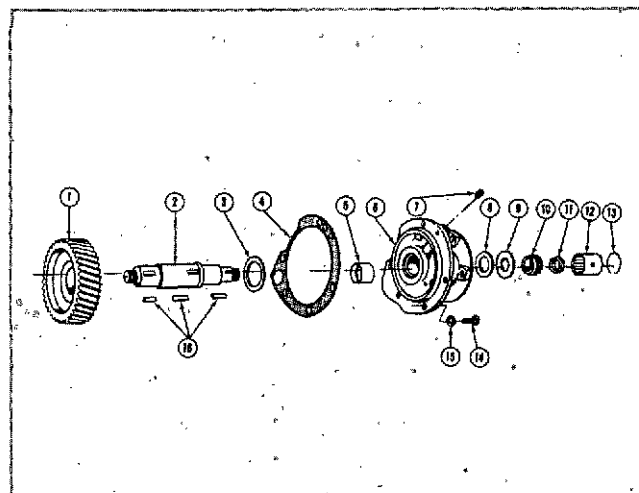

Fig. 9-1-2, V40909 Fuel pump/water pump/compressor drive
1. Remove drive shaft locknut (11, Fig. 9-1-2); using suitable puller, pull coupling (10) from shaft, lift out drive key.
2. Remove clamping washer (9) and thrust washer (8) from coupling end of shaft (2).
3. Press shaft and gear assembly from housing (6).
4. Press shaft (2) from gear (1) and remove keys (16) from shaft.
1. Install key (16, Fig. 9-1-2) in center key slot of shaft and press drive gear (1) on shaft (2) from pulley end until gear seats against shoulder.
2. Slip on large thrust washer (3) with thrust face toward gear (1). Install shaft (2) through housing and bushing.
3. Turn over assembly; slip on small thrust washer (8) (face away from housing) and clamp washer (9). Install coupling key (16).
4. Press on coupling (10), hub end toward clamping washer (9), until coupling seats against clamping washer, and secure with locknut (11).
3. Turn over assembly; slip on small thrust washer (8) (face